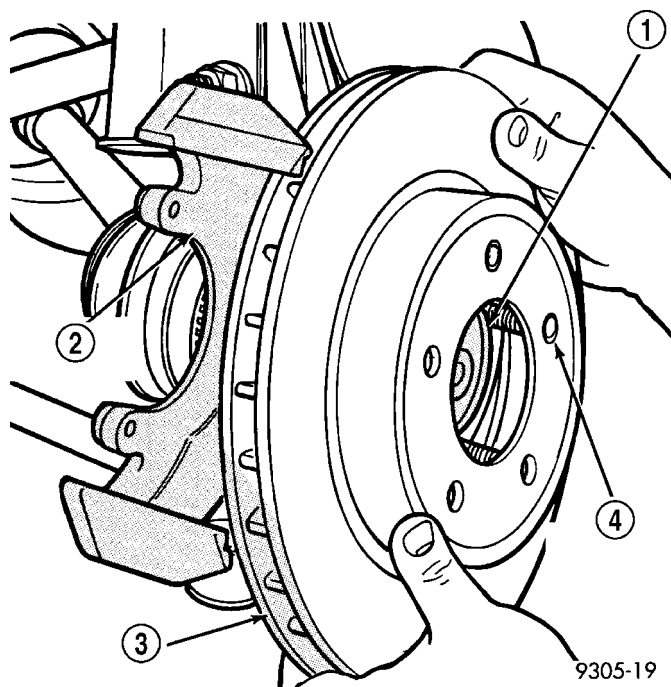

Fig. 4 Removing Braking Disc
(4) Remove front braking disk (rotor) from hub, by pulling it straight off wheel mounting studs (Fig. 4).